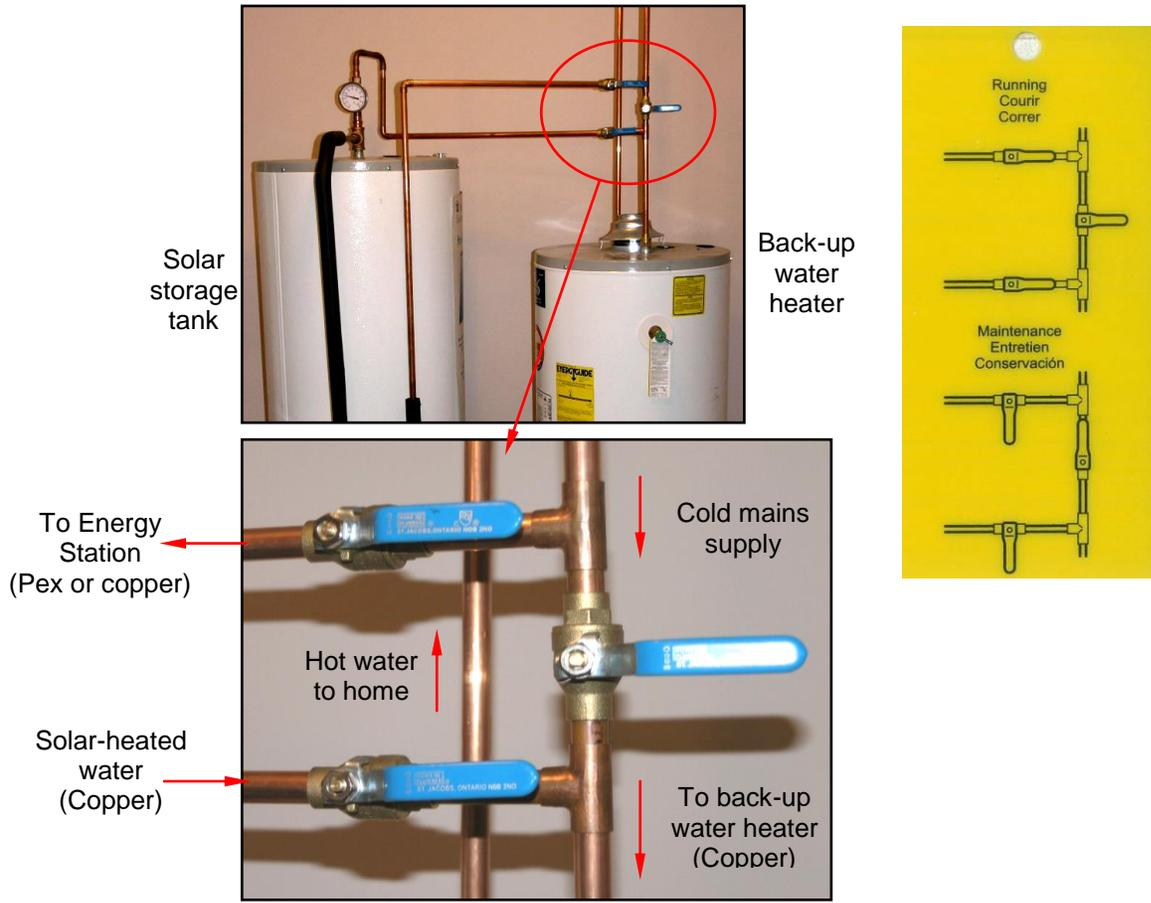

Fig.4.4.1 – Bypass valve configuration
1. Cut cold mains supply to existing water heater. Insert ball valve into cold supply line with tee fittings upstream and downstream (either $\frac{3}{4}$ " or $\frac{1}{2}$ " depending on existing pipe sizes) (Fig.4.4.1). Tee fitting and line upstream from ball valve may be PEX or copper pipe. Tee fitting and line downstream of ball valve must be rigid copper as temperature of solar-heated water may exceed PEX ratings.
2. Tee fitting above ball valve will direct mains water supply to cold mains inlet of Energy Station ($\frac{3}{4}$ " MNPT at right of upper manifold). A second ball valve should be connected downstream from this tee (Fig.4.4.1).
3. Tee fitting below initial ball valve will direct solar-heated water into existing water heater (Fig.4.4.1). A third ball valve should be connected upstream from this tee.
5. Tie *Valve Positioning Label* to pipe in proximity to ball valves to indicate *Running* and *Maintenance* valve positions (Fig.4.4.1).
Hot water outlet of solar storage tank is to be connected to existing water heater cold inlet (through third ball valve and into tee below initial ball valve). Using dealer-supplied materials (copper pipe and sweat fittings), fit hot water outlet of solar storage tank (open port of thermometer assembly tee at top of tank) to “cold” inlet of existing water heater (Fig.4.4.1). **Do not use PEX as solar water heating appliance can produce very hot water that exceeds PEX temperature ratings.**